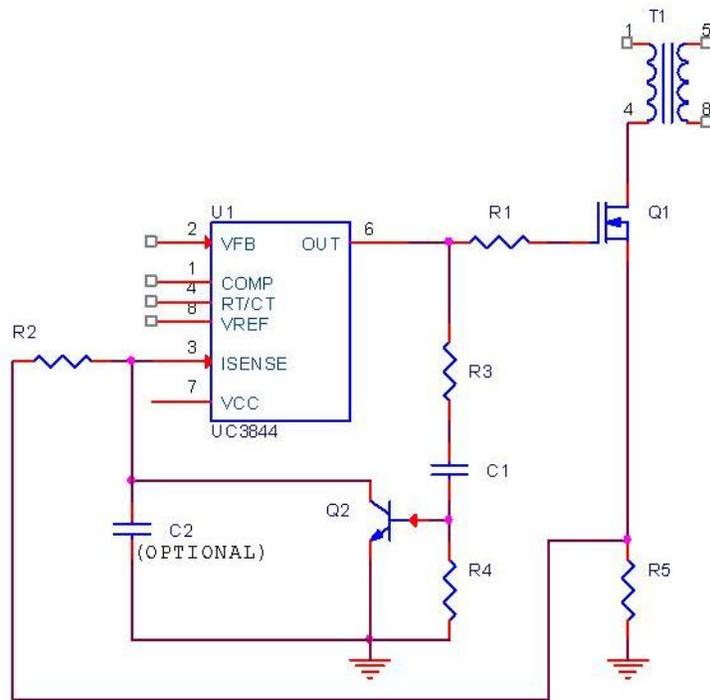

FIGURE 6
7) If your PWM IC does not support leading edge blanking option then you can implement at current sense pin with few external parts (Figure 6). This will almost eliminate the false triggering at this pin and help reduce acoustic noise further.